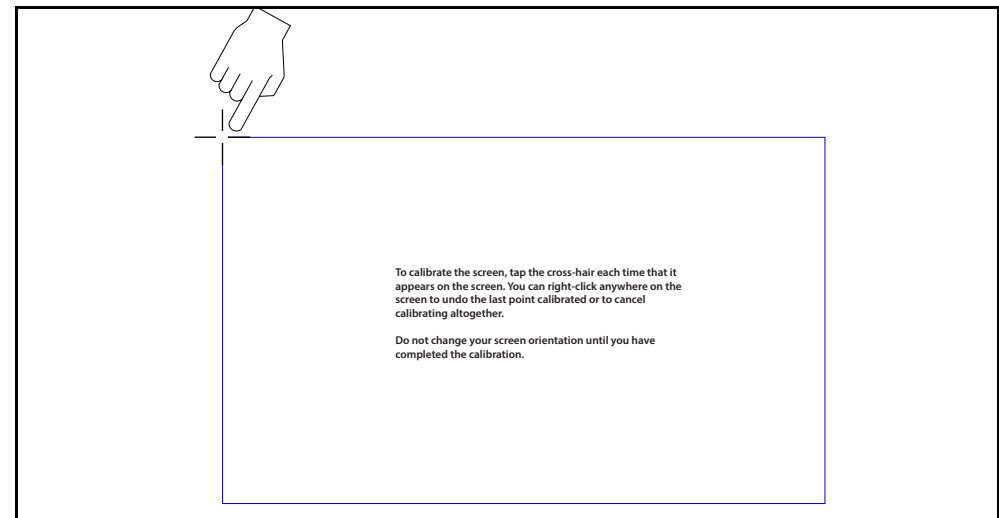

Figure 1-15 Calibrating the Touch Screen
The Calibration screen is displayed (*Figure 1-15*).
4. Using the stylus, follow the screen prompts and tap on the center of the cross-hairs as they appear at each corner on the screen (*Figure 1-15*).